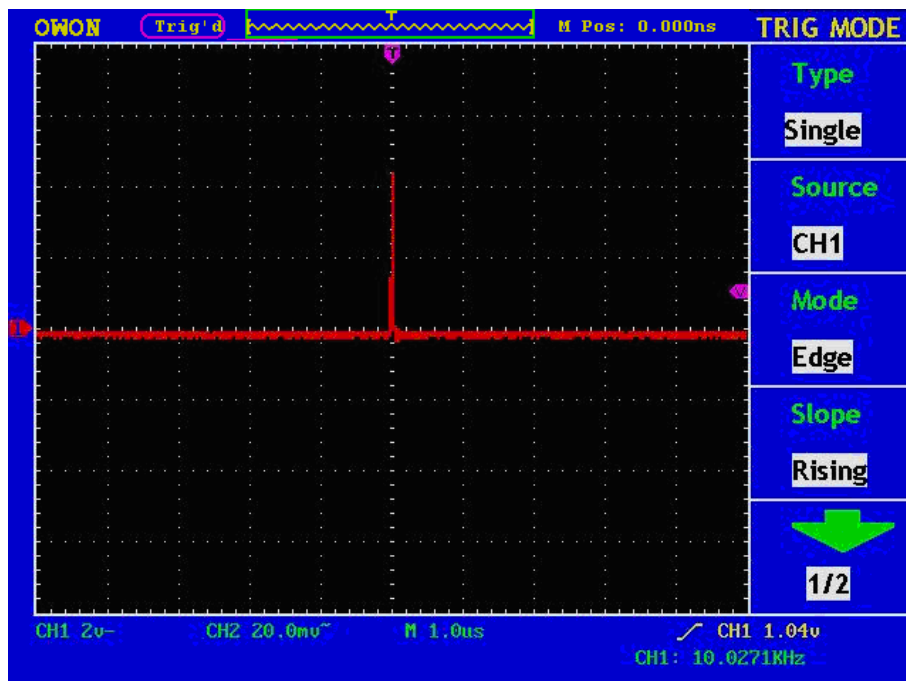

Fig.6-3 Capture the Single Signal
12. If the **Trigger State Indicator** at the top of the screen does not indicate **Ready**, push down the **RUN/STOP** button and start **Acquire**, waiting the emergence of the signal in conformity with the trigger conditions. If a signal reaches to the set trigger level, one sampling will be made and then displayed in the screen. With this function, any random occurrence can be captured easily. Taking the burst burr of larger amplitude for example, set the trigger level to the value just greater than the normal signal level, and then presses the **RUN/STOP** button and waits. When there is a burr occurring, the instrument will trigger automatically and record the wave form generated during the period around the trigger time. With the **HORIZONTAL POSITION** knob in the horizontal control area in the panel rotated, you can change the horizontal position of the trigger position to obtain the negative delay, making an easy observation of the waveform before the burr occurs (see **Fig.6-3**).